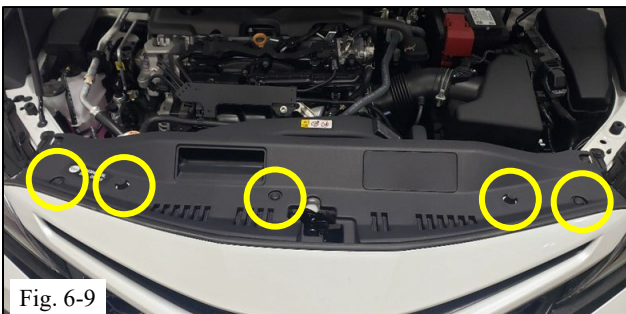

Fig. 6-9
- (l) Reinstall the radiator cover using the (5) push pin retainers (Fig 6-9).